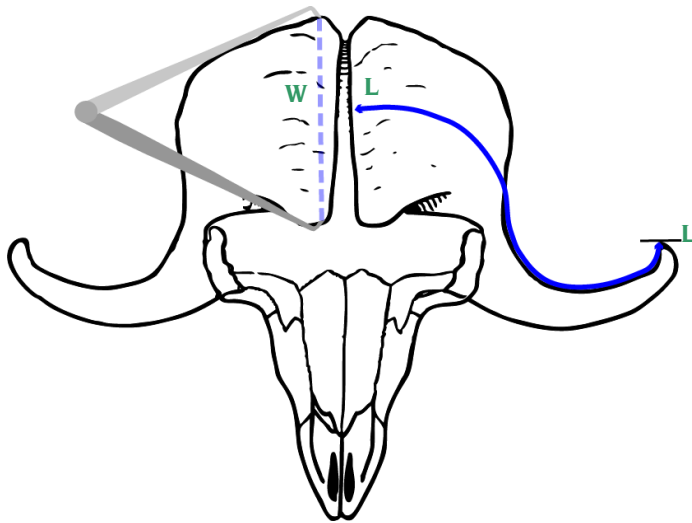

Figure 1
1. Length. Measure the length of each horn from the center of the boss to the tip, following along the center of the horn surface (L). (Figures 1 and 2) Start on the boss side in the narrow valley between the two bosses use a hooked $\frac{1}{4}$ -inch wide steel tape. Hook the steel tape around the edge of the horn and then the tape will then go almost straight up and make a turn to arrive at the top of the boss. From there, measure toward the tip while keeping the tape in the center. Marking the center of the horns with a pencil or paper masking tape first is a good way to keep right in the center. As the tape advances toward the point, it may, in fact, start back toward the boss as the horn hooks up and inward. Stay on the center of the horn. If the horn tip is broken or worn, card off. (See General instructions.)
2. Width of Boss. Using a caliper, measure each boss at its greatest width. Make sure your measurement is parallel to the center of the skull. (Figure 1) Do not measure "green" or "soft" boss material. Make sure the caliper is tight along the horn but not so tight that that it snaps inward once it is removed from the horn but not too loose around the horn either. It must touch horn when being removed from the skull so that the space can be measured with an inch tape.